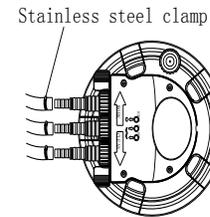

Figure 2
2. Connect your pump to the barbed connector marked "in" by the schematic drawing on the top of the filter. Lay the tubing in the channel. Attach the tubing for the upper basin or waterfall to the barbed connector marked "out" and lay it in the channel leading to the upper pond basin. Attach the flushing discharge tube to the fitting marked "dirty" and route it away from your pond, trenching as necessary, to carry grey water away from your pond. Use stainless steel clamps to create water tight seals at all tubing connections (filter and pump). (See figure 2)